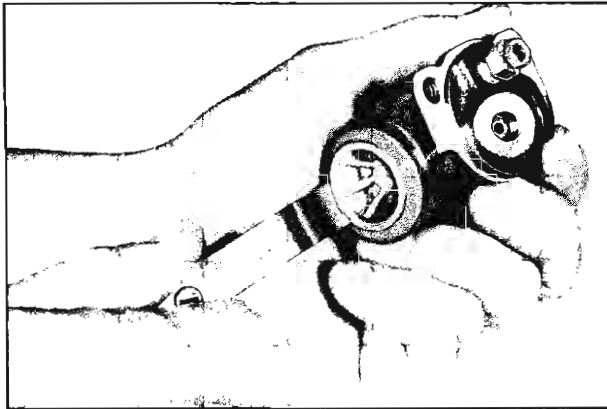

Fig. 25—Checking Wheel Cylinder Piston Fit
3. Check fit of the piston in the cylinder bore, using a feeler gauge (fig. 25). This clearance should be from .003" to .006". If clearance exceeds .006" replace piston and cup with repair kit if bore is not damaged. Replace cylinder assembly if bore is scored or damaged.